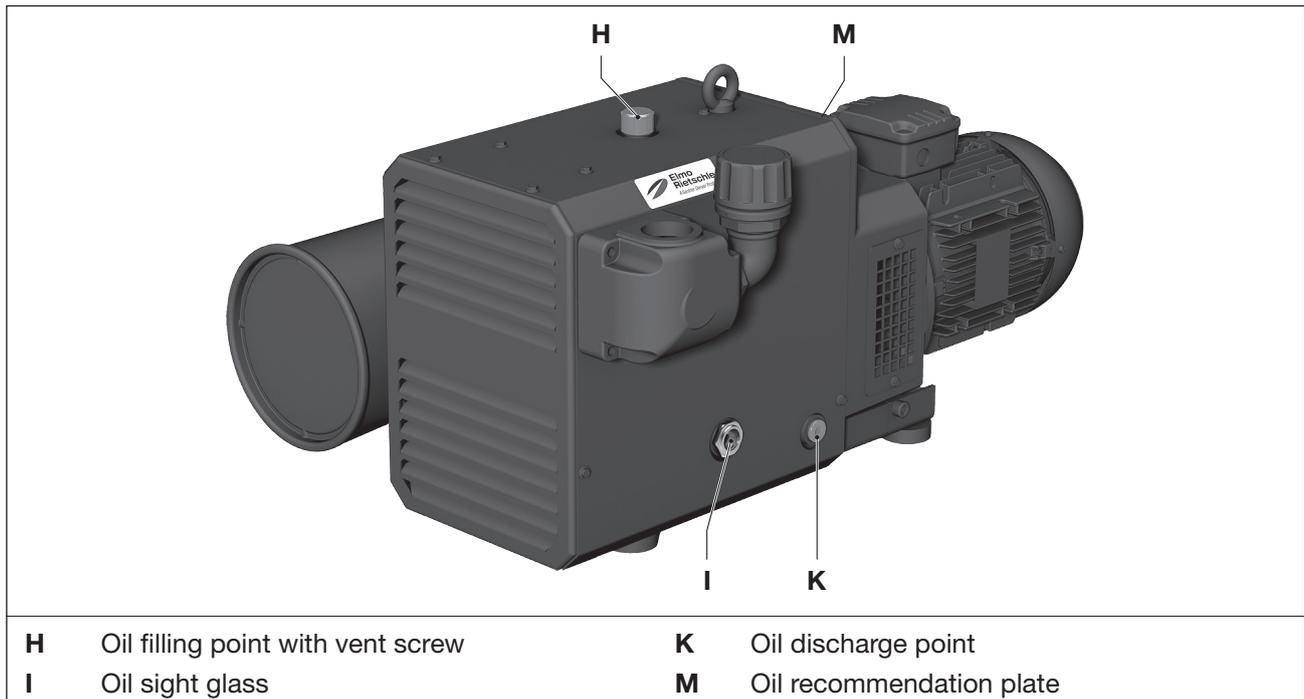

Fig. 7 Change the oil
- Check the oil level in the sight glasses (Fig. 7/I) every month.
- Open the cap of the oil filling point (Fig. 7/H) and refill oil until it reaches the upper edge of the sight glass (Fig. 7/I).
We recommend Elmo Rietschle oils (also see Oil recommendation plate (Fig. 7/M)) as operating agent:
- b) Open the screw of the oil filling point (Fig. 7/H), open the oil discharge point (Fig. 7/K) and completely discharge the used oil.
- c) Close the oil discharge point (Fig. 7/K) and fill in new oil through the oil filling point (Fig. 7/H). Check the oil level in the sight glasses (Fig. 7/I).
- d) Close the screw in the oil filling point (Fig. 7/H).